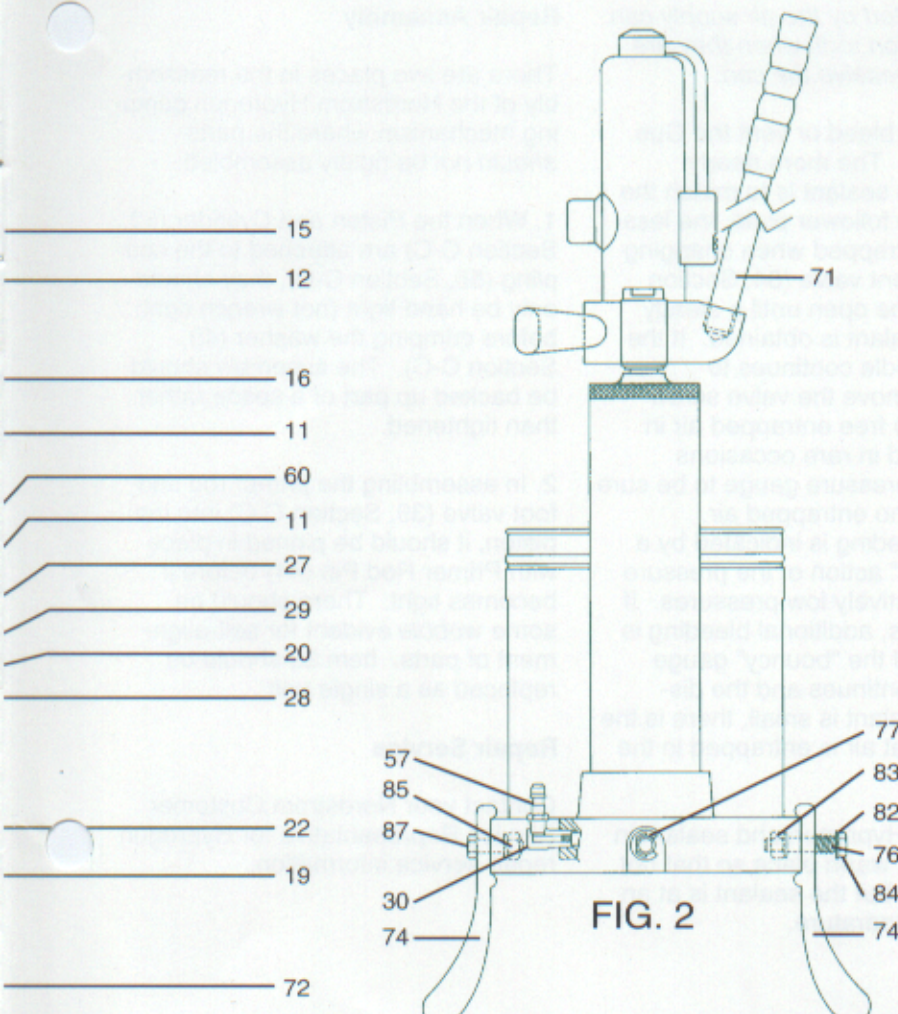

Figure 2
6. Raise the pump mechanism and sealant follower plate before inserting the sealant container into the Gun. By connecting the air supply hose to the air supply nipple (57, Fig. 2) in the base of the pump and opening the needle valve (8, Section A-A) the follower plate will rise sufficiently to clear the top of the sealant container.
14. When all sealant has been pumped out of the sealant container, shut off the air motor at the throttle valve (3, Fig. 1) and transfer the air supply hose to the air supply nipple (57, Fig. 2) on the base of the Gun. By opening the needle valve (8, Section A-A), the Gun mechanism is raised, lifting the sealant container off the Gun base. Close the needle valve.